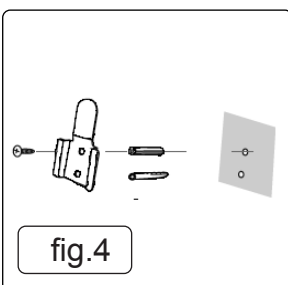

fig.4
- 4.2.2. Use the bracket as a template and mark the two holes ready for drilling. fig.4.